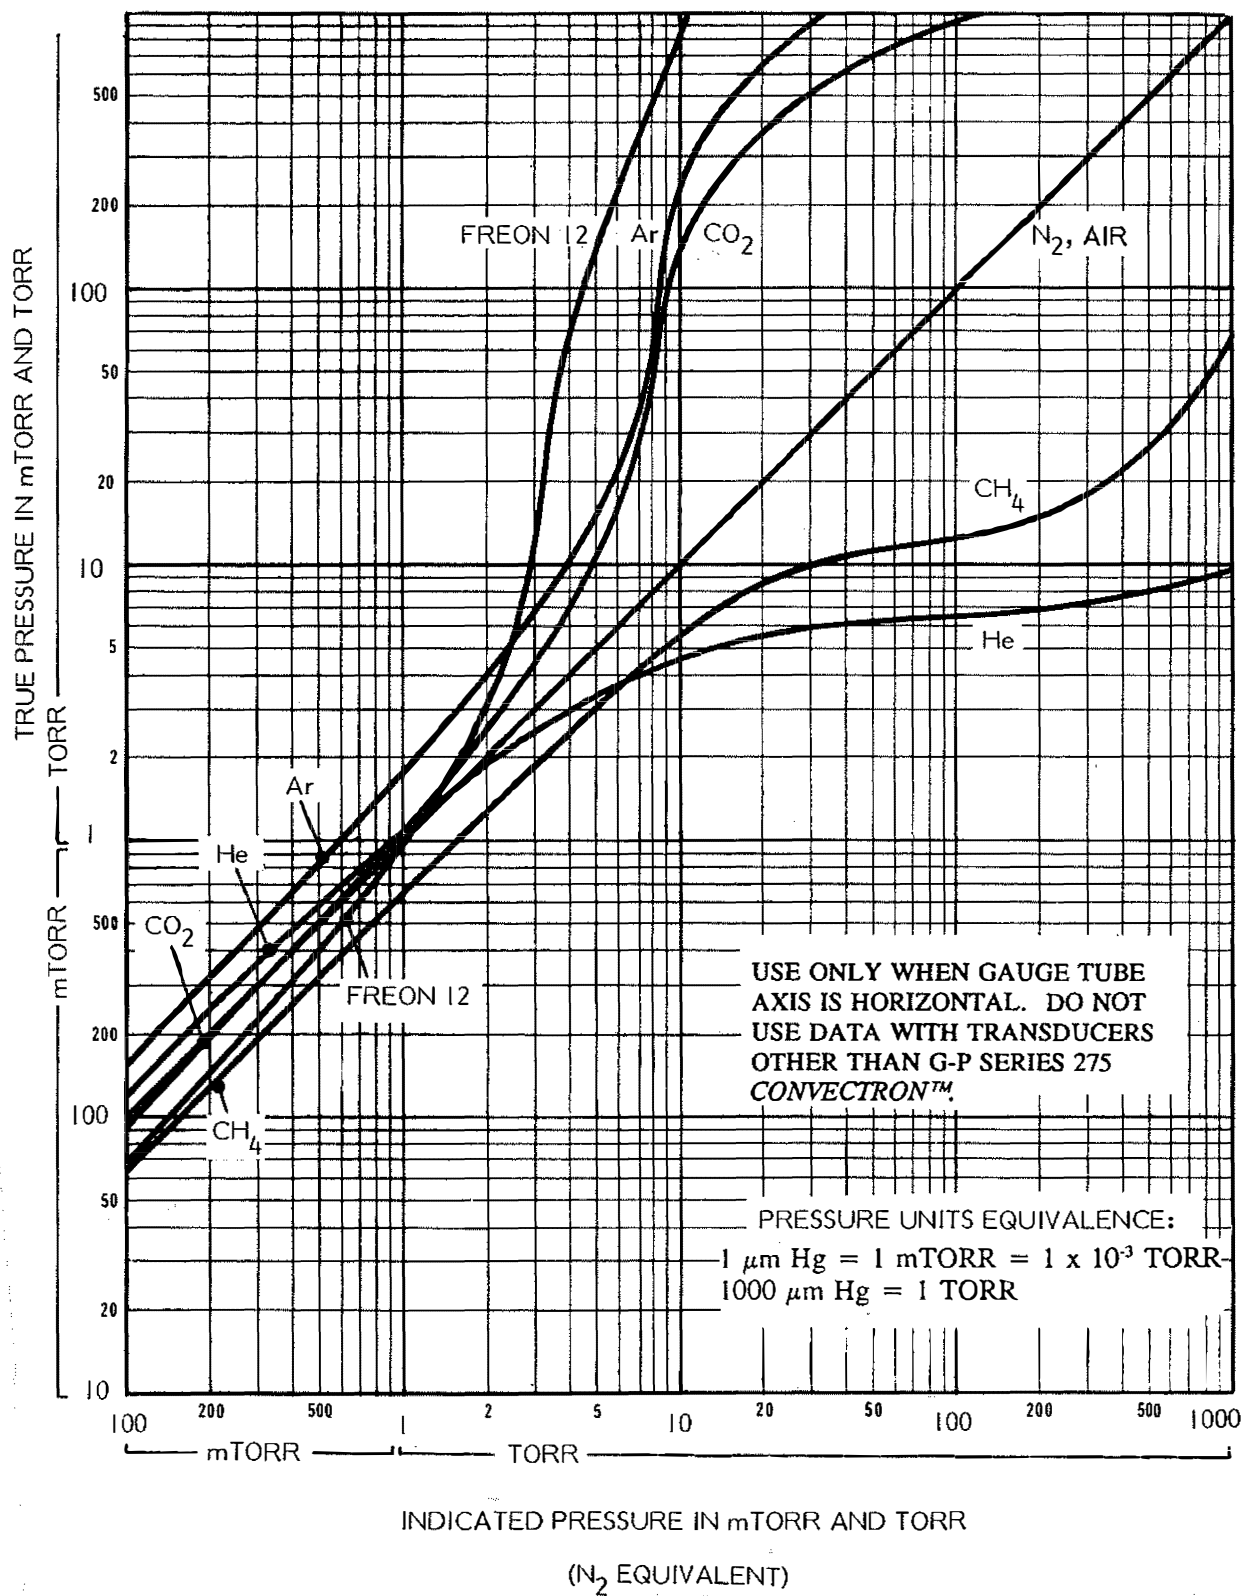

Figure 3-6. Conversion Chart 0.1 to 1000 Torr
- a. Assume that a true pressure of 20 Torr of CO_2 is the desired process control set point. On Figure 3-6, locate 20 Torr on the true pressure scale. Read horizontally to the right to the intersection of the 20 Torr line and the CO_2 curve. Reading the horizontal axis, this point is 6.5 Torr, indicated pressure (N_2 equivalent). Thus the correct process control setting for 20 Torr of CO_2 is 6.5 Torr, N_2 equivalent.
- b. Assume that it is desired to obtain a He pressure of 100 Torr in the system. On Figure 3-6, locate 100 Torr on the true pressure scale. Read horizontally to the right to intersect the He curve. Because the intersection of the 100 Torr line and the He curve is off scale, it is apparent that a true pressure of 100 Torr of He exceeds the capability of the system and cannot be measured.